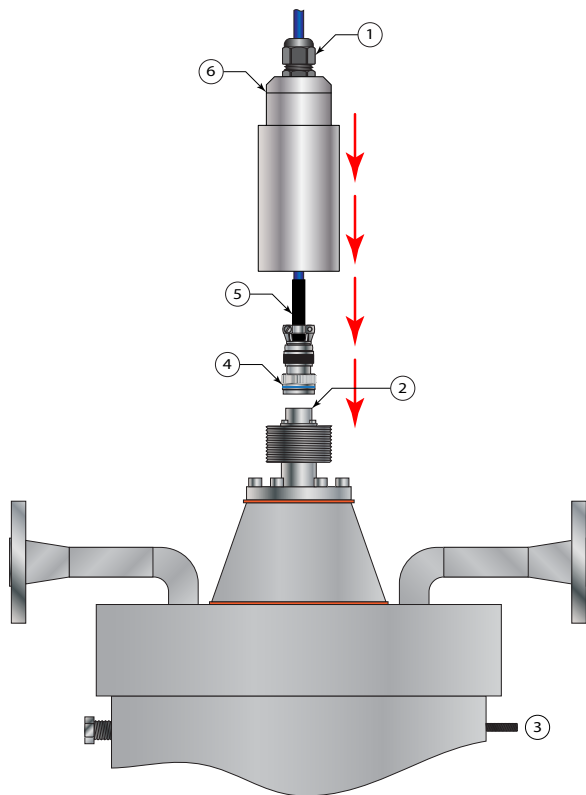

Figure 29: Protective cable cover installation
2. Slide the protective cable cover over the sensor connections and thread the cover hand tight. See *Figure 29*.